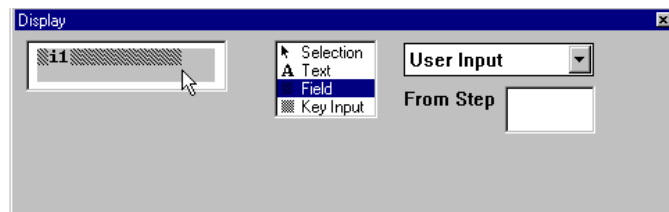

Figure 2-50 Display - Field Object
4. Release the mouse button; a field object appears (Figure 2-50).